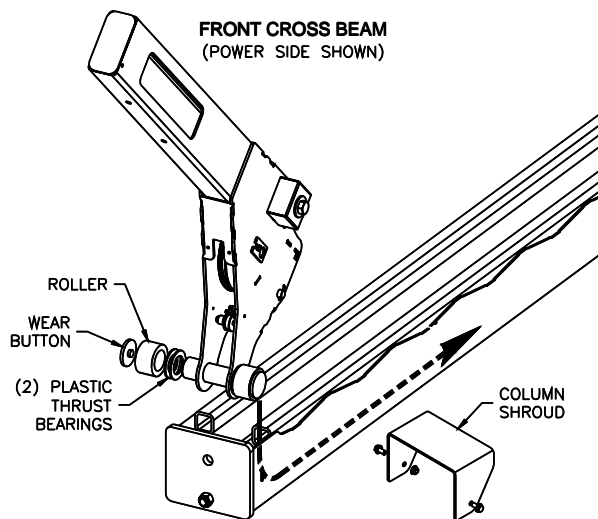

Fig 10 – Front Cross Beam Installation
- 24) Position the two front columns near the front corners of the lift, remove the column shroud from each, and insert the front cross beams as shown in Fig 10. Notice that the front columns are identical, but the cross beams are not.